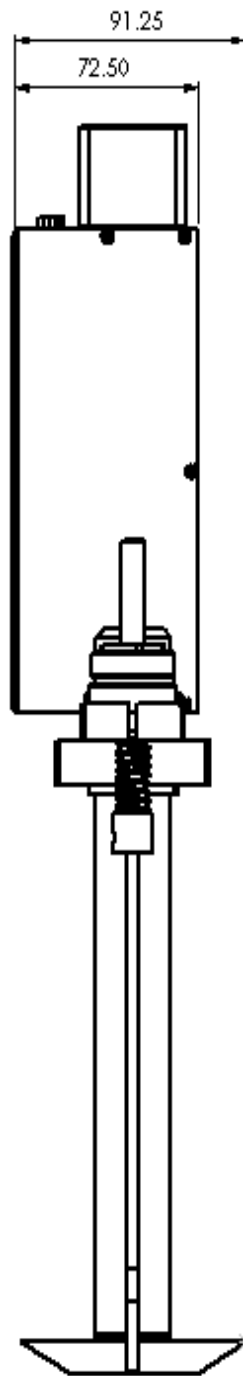

Fig. 3-3 Height Controller Right View
- For left installation view and related dimensions of height controller, please view Fig. 3-3.